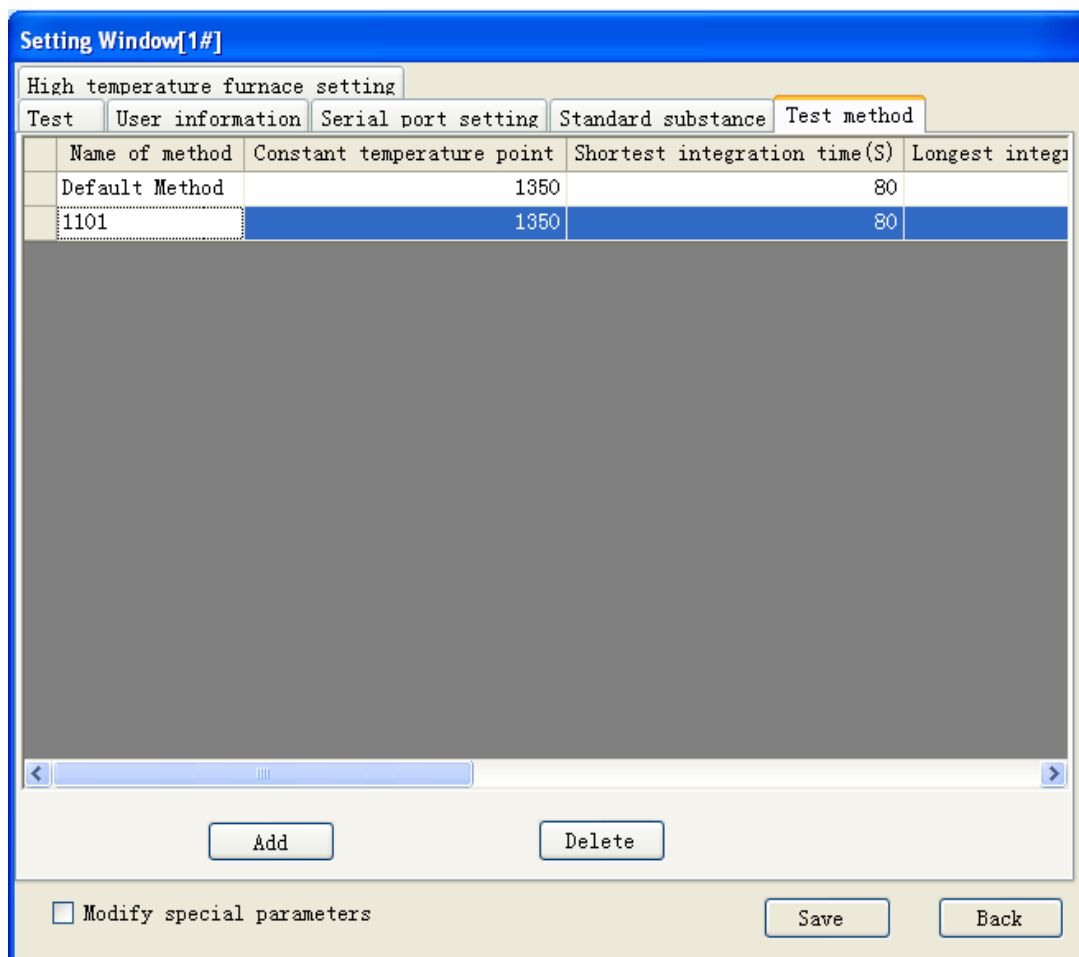

Fig. 4-3-6
**1-4. Test method:** click tab “Test Method” of “Setting Window”, the window shown in Fig. 4-3-6 will popup.